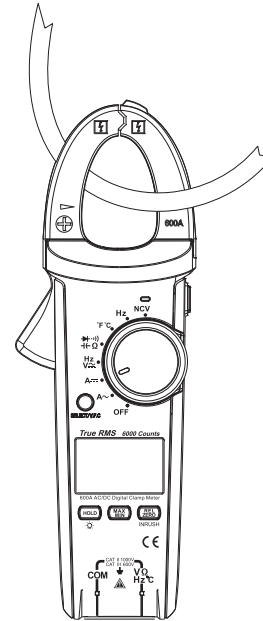

Fig. 2
**1.Measurement of AC current (shown as Fig. 2)**